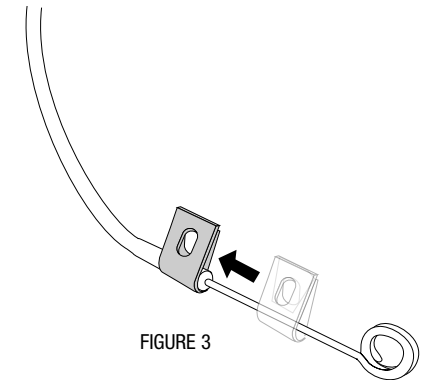

FIGURE 3
Step 3: Attach the included cable clips to each adjuster cable as shown in figure 3. You'll use these cable adaptors to secure the integrators to your OEM control head, or you may have to attach the integrators in another manner.